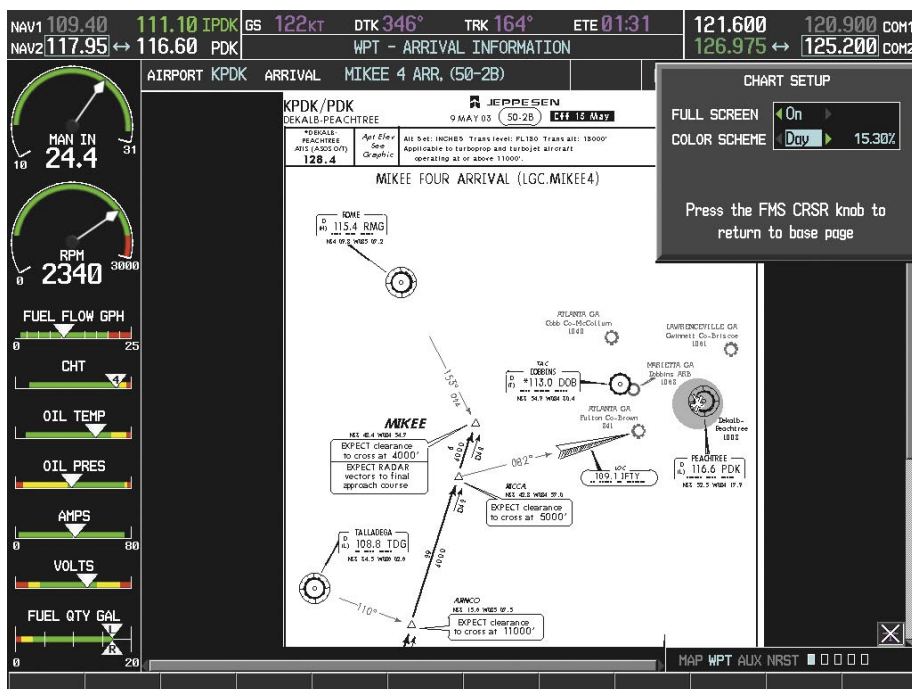

Figure 8-42 Arrival Information Page, Day View
- 3) Turn the large **FMS** Knob to move to the COLOR SCHEME Option (Figure 8-42).